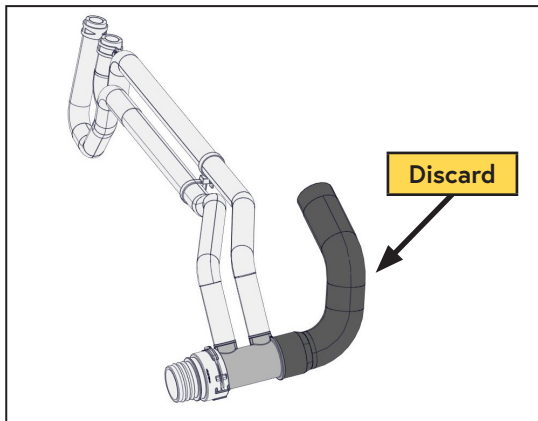

Figure 29 — Discard coolant return hose
- Remove the hose running between the oil cooler diverter and the degas bottle Tee and discard (Figure 29).